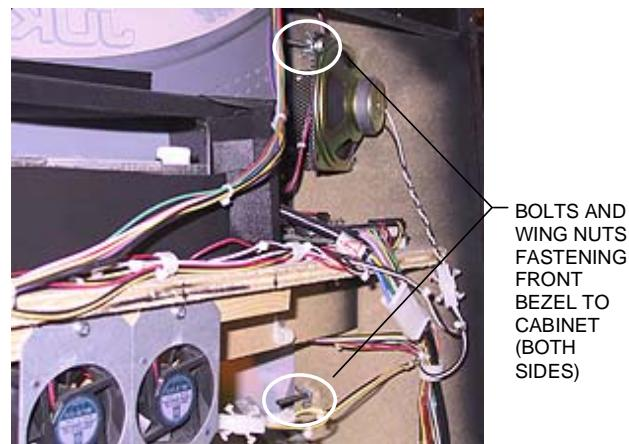

FIGURE 4 - MEGATOUCH COMBO JUKEBOX - INSIDE REAR OF CABINET
7. Carefully replace the front bezel, lining up the holes in the bezel with the screw holes on the game. Then replace the 6 bolts and wing nuts (3 per side) fastening the bezel to the game. Refer to Figures 4 and 5.
6. Side wall mounted tray: Remove the 4 screws mounting the motherboard to the electronics tray. Bottom mounted tray: Release the locking head of the nylon standoffs by pushing in the sides (see Figure 4 for both locations). Carefully remove the board and insert into an anti-static bag for storage. NOTE: Be sure to read the Motherboard Handling Precautions before handling the board.